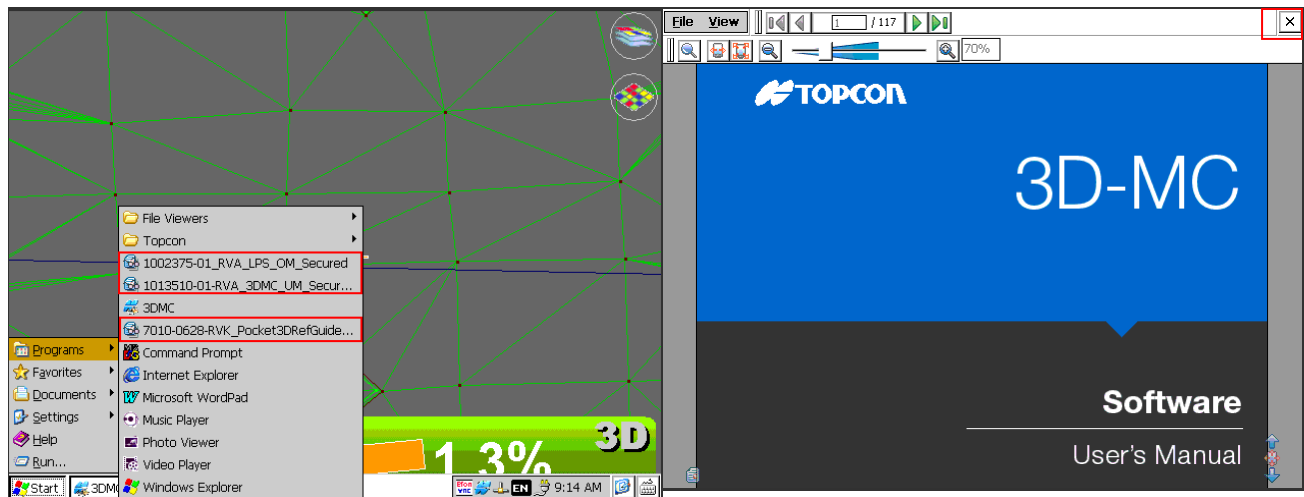

Figure 4: Access the 3D-MC Manual
2. Tap **Programs**, and select **1013510-01-RVA_3DMC_UM_Secured** (Figure 4).
3. Tap **X** to return to the main screen (Figure 4).